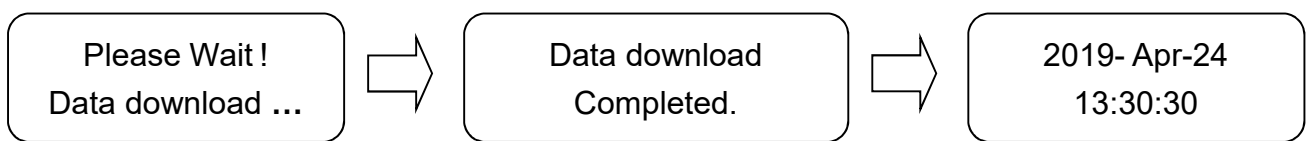

Figure 47
b) After the sterilization cycle has been completed, the data will be saved to the USB flash drive and the recorder will return to standby mode. The saving steps are as shown in Figure 47.